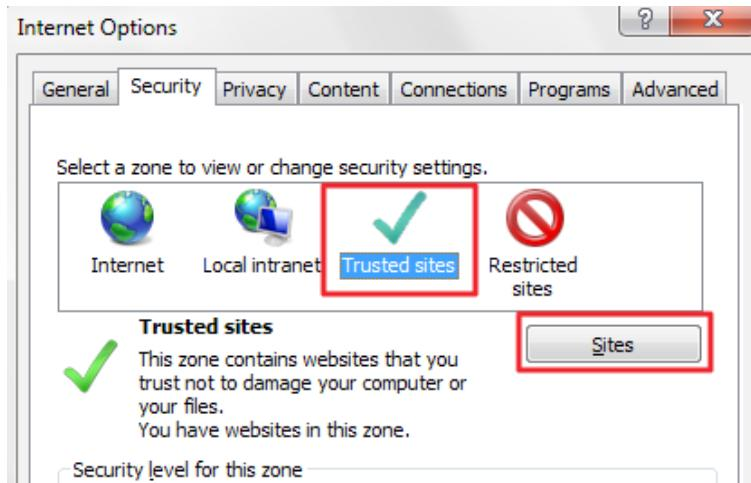

Figure 4-33 Sites button in Trusted Sites
- » Finally, the IP address of the MSC card needs to be added. Go back to Trusted Sites and click the Sites button as shown in Figure 4-33.